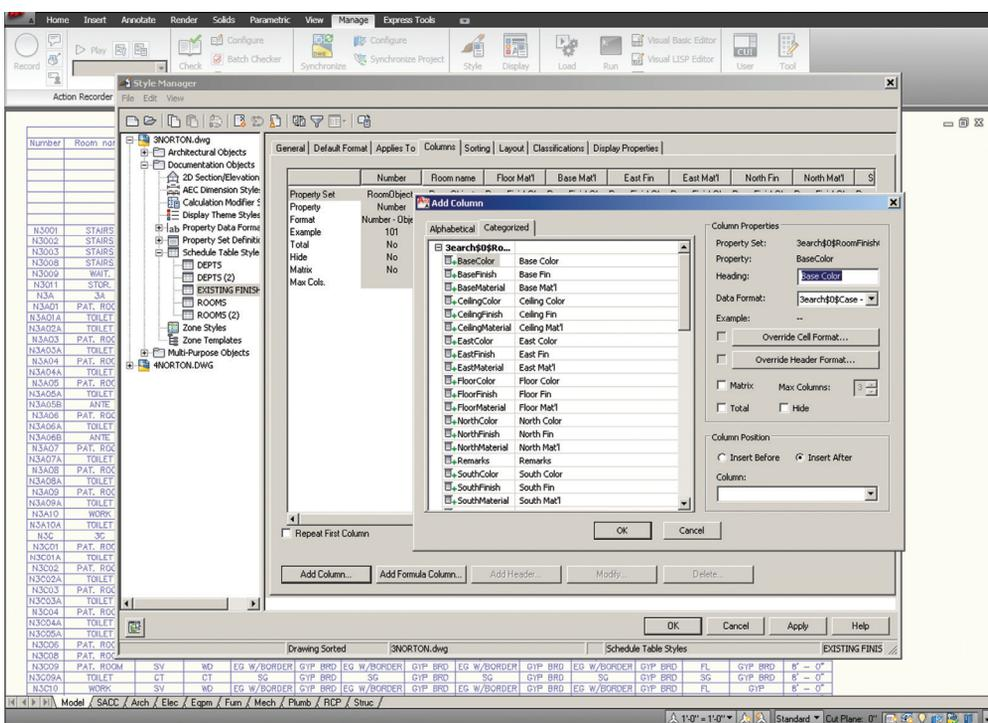

Figure 1: Schedule table style—Add Column
4. **Columns** allow you to add columns to represent properties that are reported in the schedule table style. You can also add column headings, edit column data, and edit column placement in your style (see Figure 1).